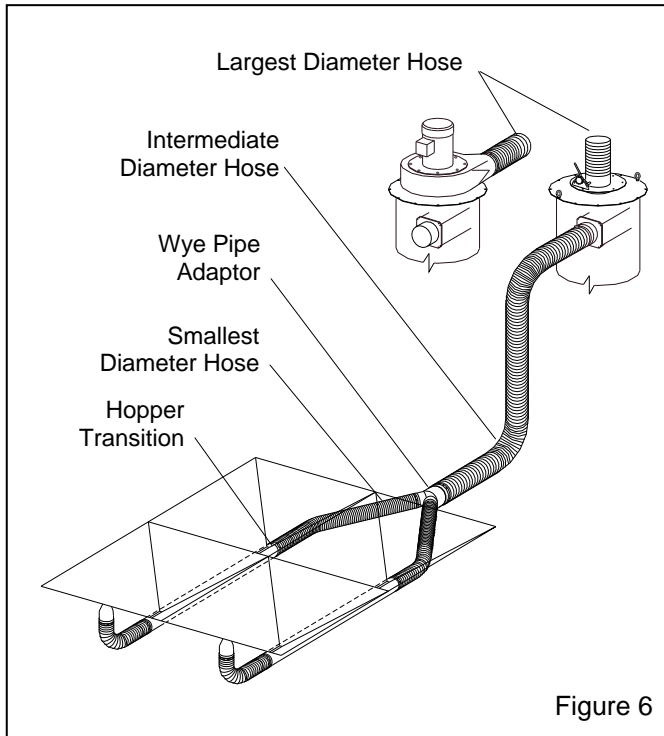

Figure 6
2.4 Connect Conveying Hose, Figure 6